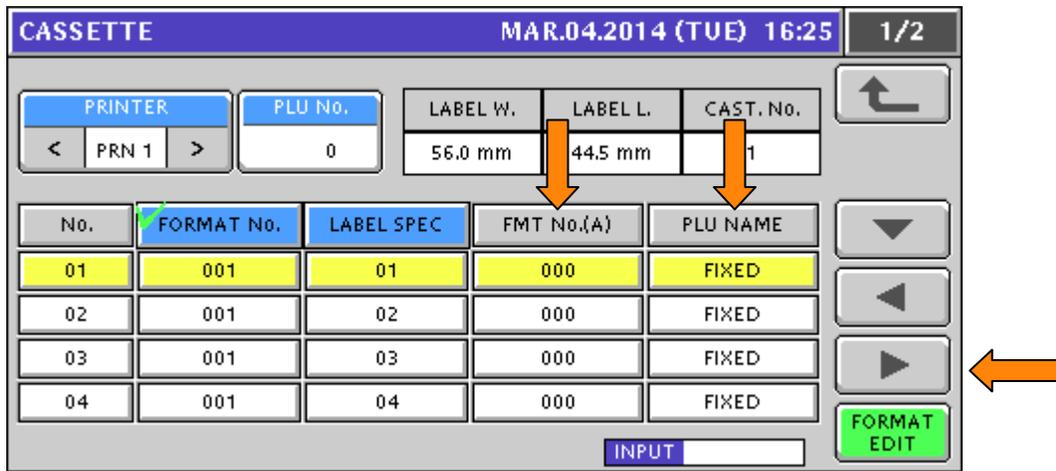

Figure 7.6. Label Cassette Setup: Auto Print Label Format No. and PLU Name Type
21. Press the ► button to move to the next page. See Figure 7.6.
22. Enter the **AUTO PRINT LABEL FORMAT NUMBER** as needed and press the Format No. (A) field. This allows a different label format to be used in pre-pack mode. Refer to the list of label formats in step #6 above.